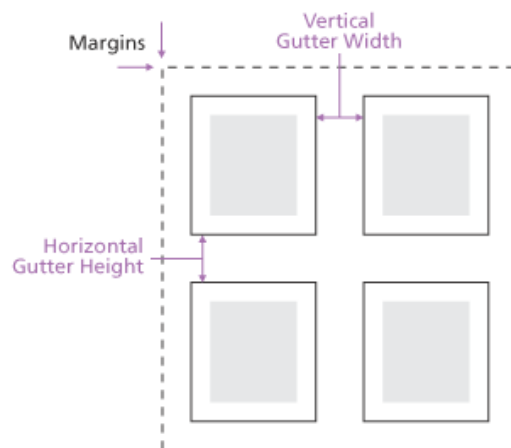

Figure 30.1 Gutter settings
- f. Set **Horizontal Gutter Height** to 1 inch or 25 mm. Figure 30.1 illustrates gutter settings: